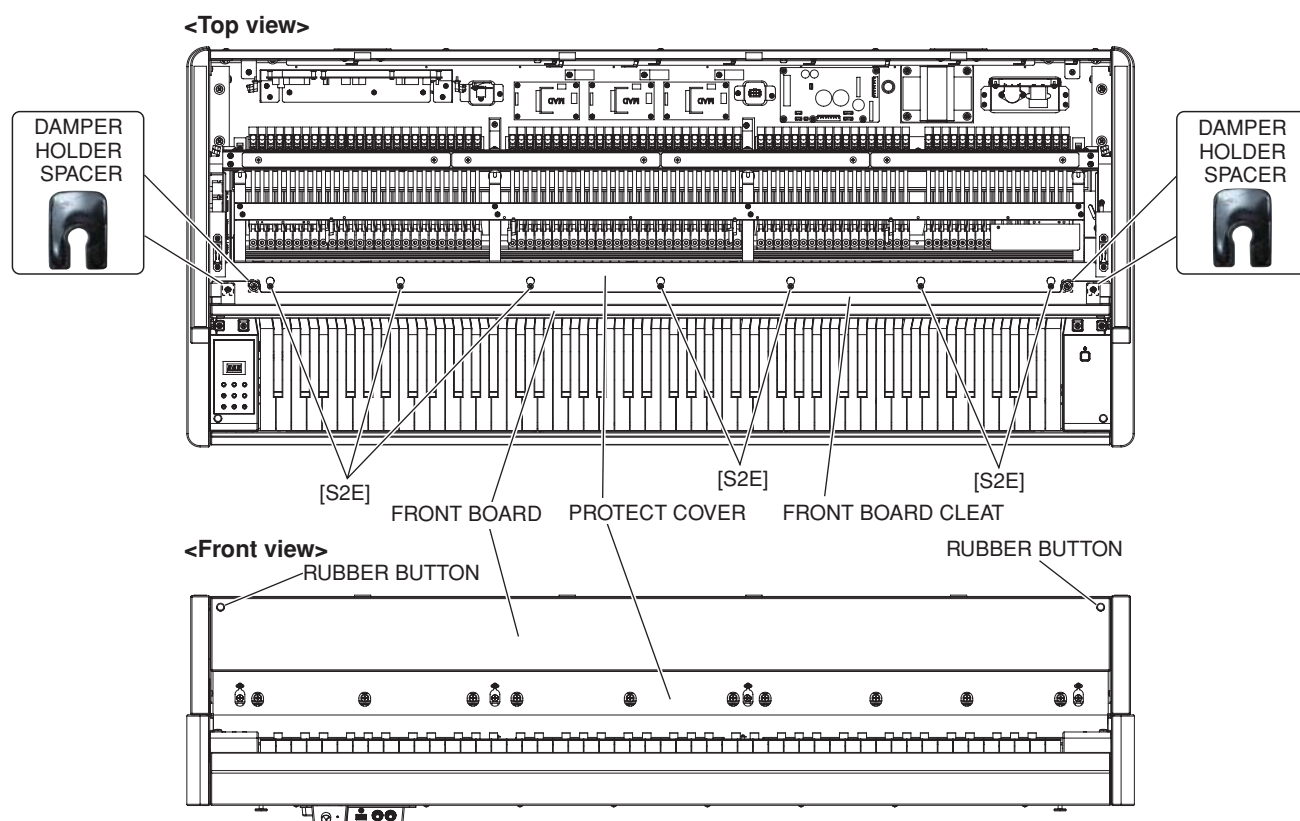

Fig. 7
11-2 Loosen the seven (7) screws marked [S2E] holding the protect cover to the front board cleat. (Fig. 7)
(12) Adjust front board height using spacers
Adjust to the standard given in section (10) by inserting or removing damper holder spacers as necessary at the portions where the front board is held by screws (2 places each on the left and right side). (Fig. 7)
(13) Reattach parts
(17) Adjust using front board rubber buttons
Adjust to the standard given in section (16) by replacing the rubber buttons with rubber buttons of appropriate size. (Fig. 7)
(18) Replacement completed**● Adjustment procedure by replacing damper holder**